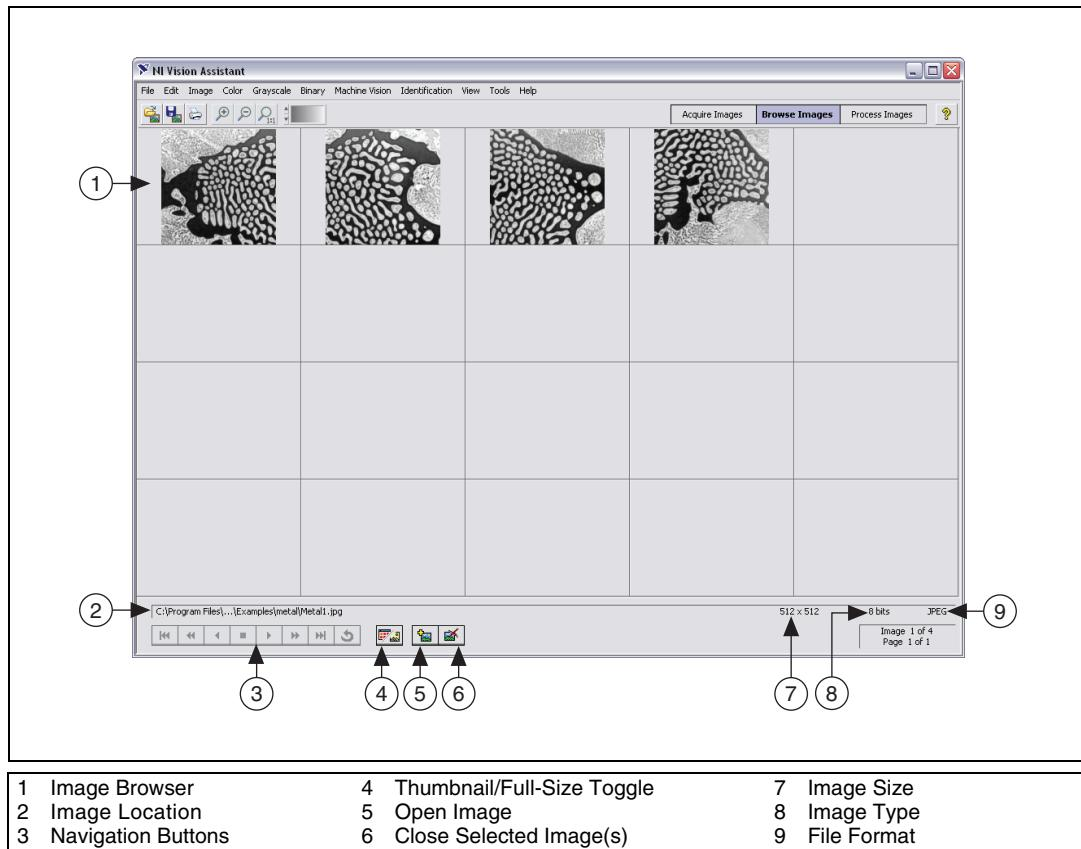

Figure 2-1. Image Browser
- **Image Browser**—Contains all of the images currently loaded in Vision Assistant. You can select an image to process by double-clicking it in the Image Browser. Refer to Figure 2-1, Image Browser, to view images loaded into the Image Browser.
Vision Assistant loads the image files you opened into the Image Browser, as shown in Figure 2-1. The Image Browser provides information about the selected image, such as image size, location, and type.
You can view images in either thumbnail view, as shown in Figure 2-1, or in full-size view, which shows a single full-size view of the selected image.